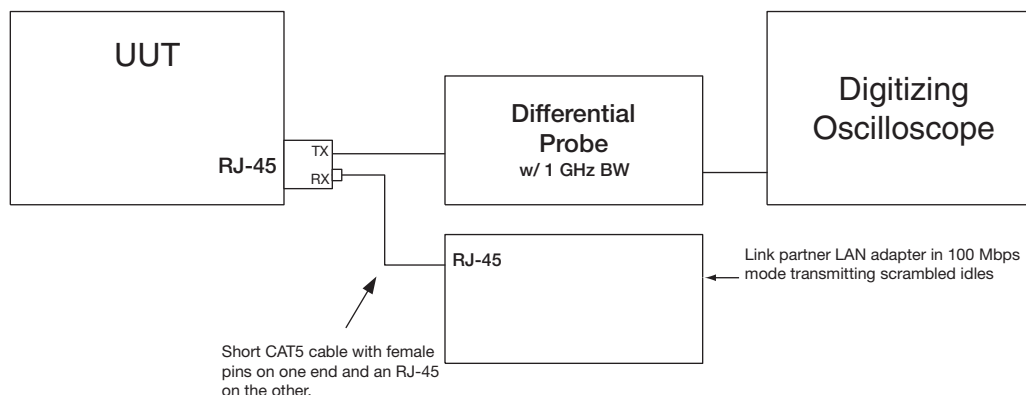
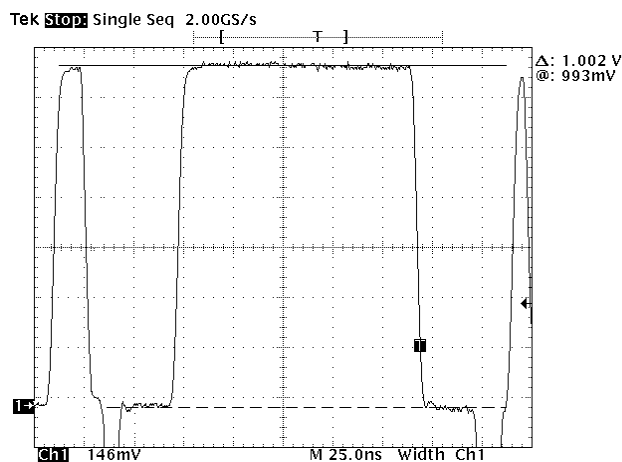
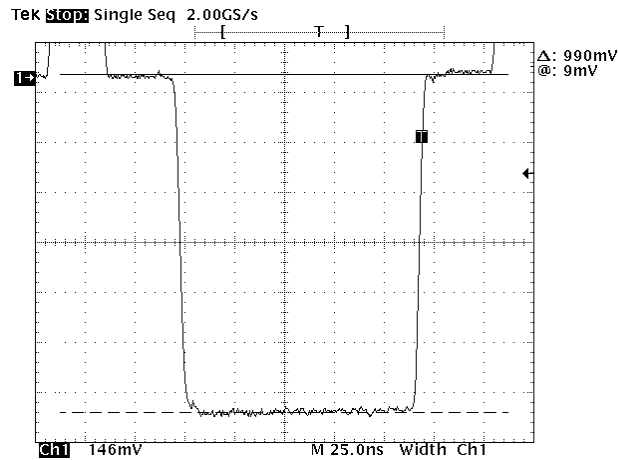

Figure I-1 Waveform at Active Output Interface
Figure I-3 Positive Peak Differential Output Voltage
Figure I-4 Negative Peak Differential Output Voltage
Table I-1 For Positive Peak Differential Output Amplitude (see Figure I-3)
Table I-2 For Negative Peak Differential Output Amplitude (see Figure I-4)
4. Use the horizontal offset to position the waveform, as shown in Figure I-1.
6. Push the trigger button; then observe the captured waveform. Keep doing manual triggers, until a pulse is acquired that has mid-level "shoulders" on both sides; with each shoulder being at least 20 nseconds wide (see Figure I-1, Figure I-3, and Figure I-4).
See Figure I-1 for measurement points. +Vout is the difference (delta) between the average MLT-3 mid-level (~0 volts), and the average peak positive output voltage. This does not include overshoot. If there is ripple or overshoot at either level, the amplitude cursor may slice through it.
Although it is not specifically mentioned in specification 9.1.2.2, -Vout should be between -950 mV and -1050 mV. Figure I-3 and Figure I-3 provide examples of data for differential output voltage.
10. Use the horizontal offset to position the waveform, as shown in Figure I-1 on page I-137.
12. Push the trigger button; then scroll all the way to the left edge and all the way to the right edge of the captured pulse. Note the MLT-3 mid-level shoulders (are they at least 20 nseconds wide?). Keep doing manual triggers, until a pulse is acquired that has mid-level "shoulders" on both sides; with each shoulder being at least 20 nseconds wide (see Figure I-1, Figure I-3, and Figure I-4).